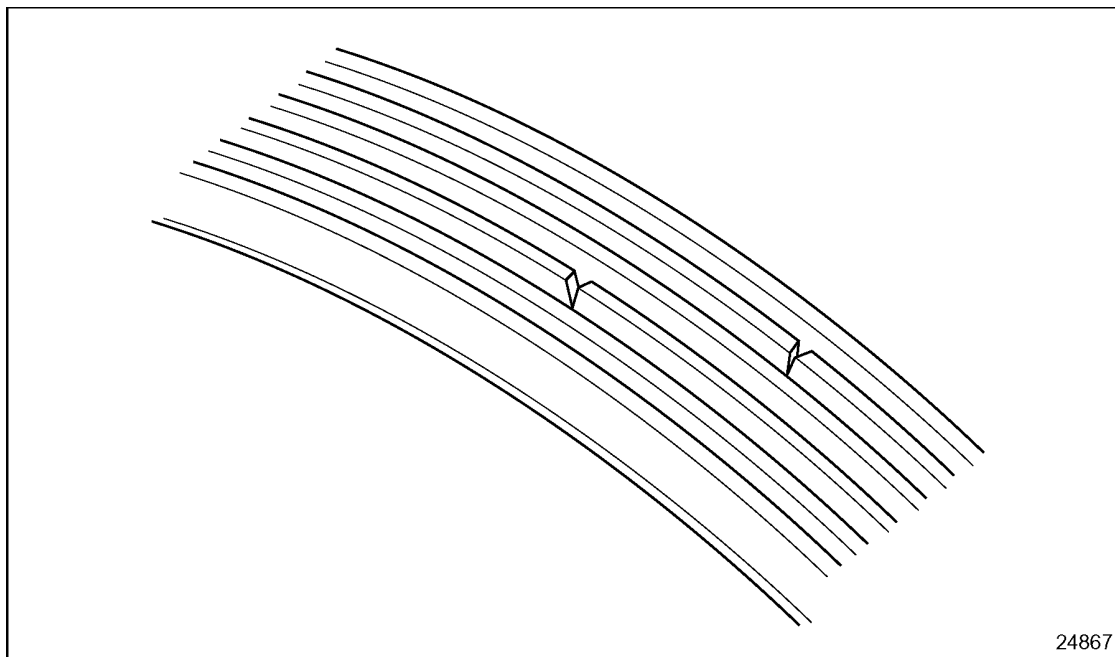

Figure 13-3 **Minor Rib Cracking**
- ☐ After an extended time in service, minor rib cracks may appear, usually one or two cracks per inch of belt. See Figure 13-3. This condition is considered normal.